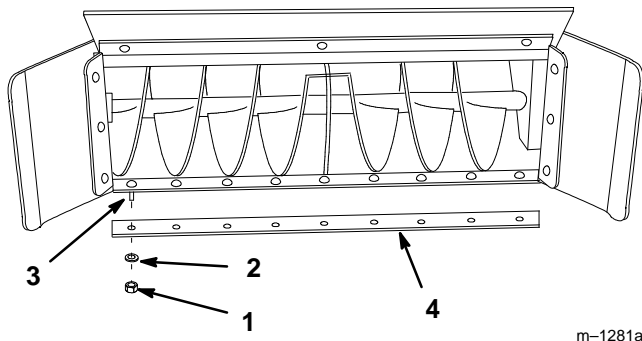

Figure 30
3. Remove nuts, washers, carriage bolts and scraper blade (Fig. 30).
Reverse the scraper blade and install it with the previously removed hardware (Fig. 30).